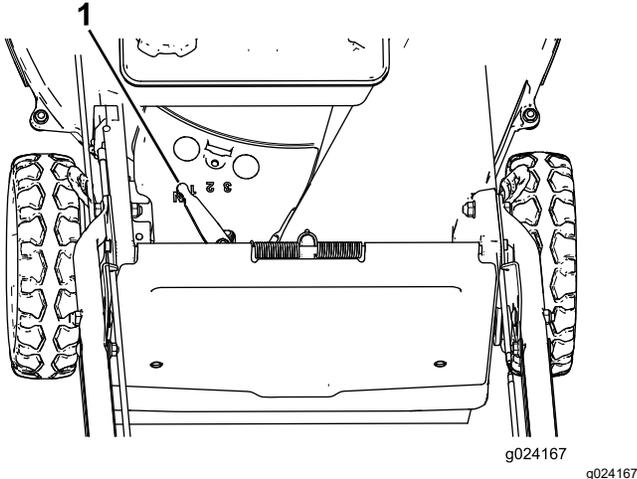

Figure 17
This machine has 3 ground speeds: 1 (slow), 2 (medium), and 3 (fast); it also has a Neutral (N) position. The self-propel-drive lever is located below and behind the fuel tank (Figure 17).